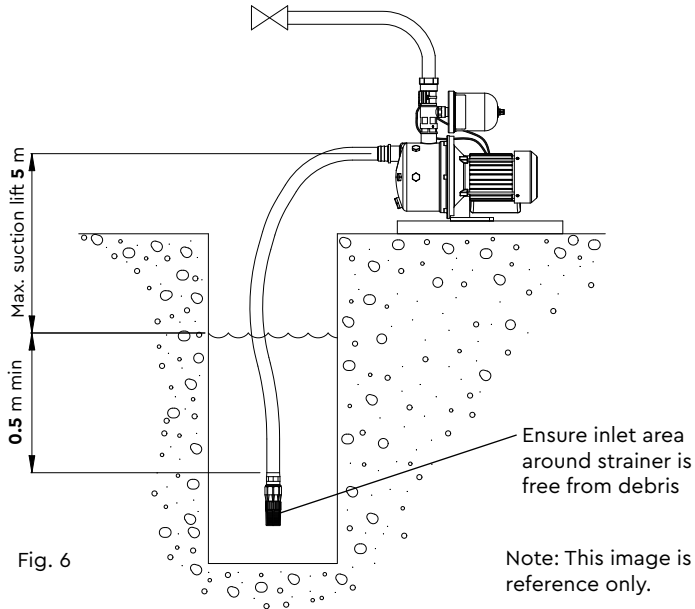

Fig. 6
- 2.25 **Suction lift:** This pump is capable of a maximum suction lift of 5 m in this case only, an NRV in the footvalve is permissible (Fig. 6).
- 2.27 **Self Priming:** Jet 55-45 B and 80-45 B pumps are capable of self priming the suction hose assembly, providing a footvalve and strainer (not supplied) is always used for this type of installation. The Jet pump can be used in a suction lift installation providing the height of lift is no greater than maximum permitted (Fig. 6). For full priming procedure see section 4.13.